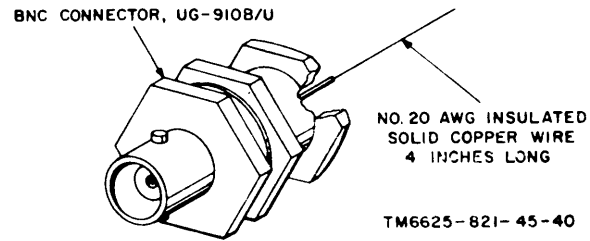

Figure 4-2. Fabricated cable for the sense antenna adapter, construction details.
b. Fabricate a cable for the sense antenna adapter in accordance with the details in figure 4-2. This cable is required to connect the sense antenna adapter to the Q-meter.